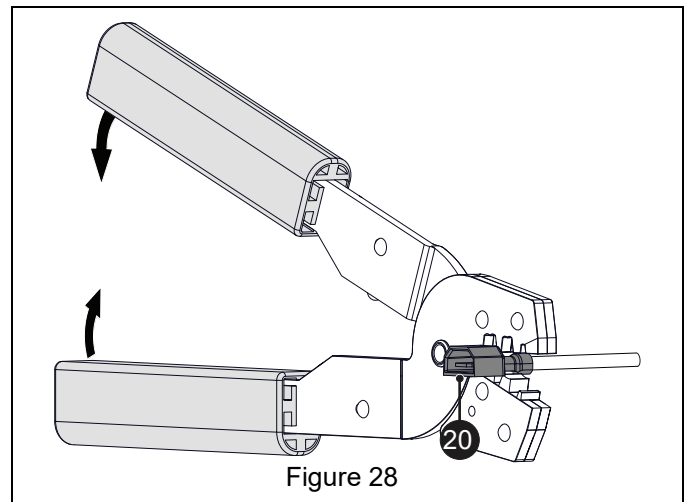

Figure 28
14. Securely crimp 1/4" male spade terminal (item 20) to bare wire. See Figure 28.